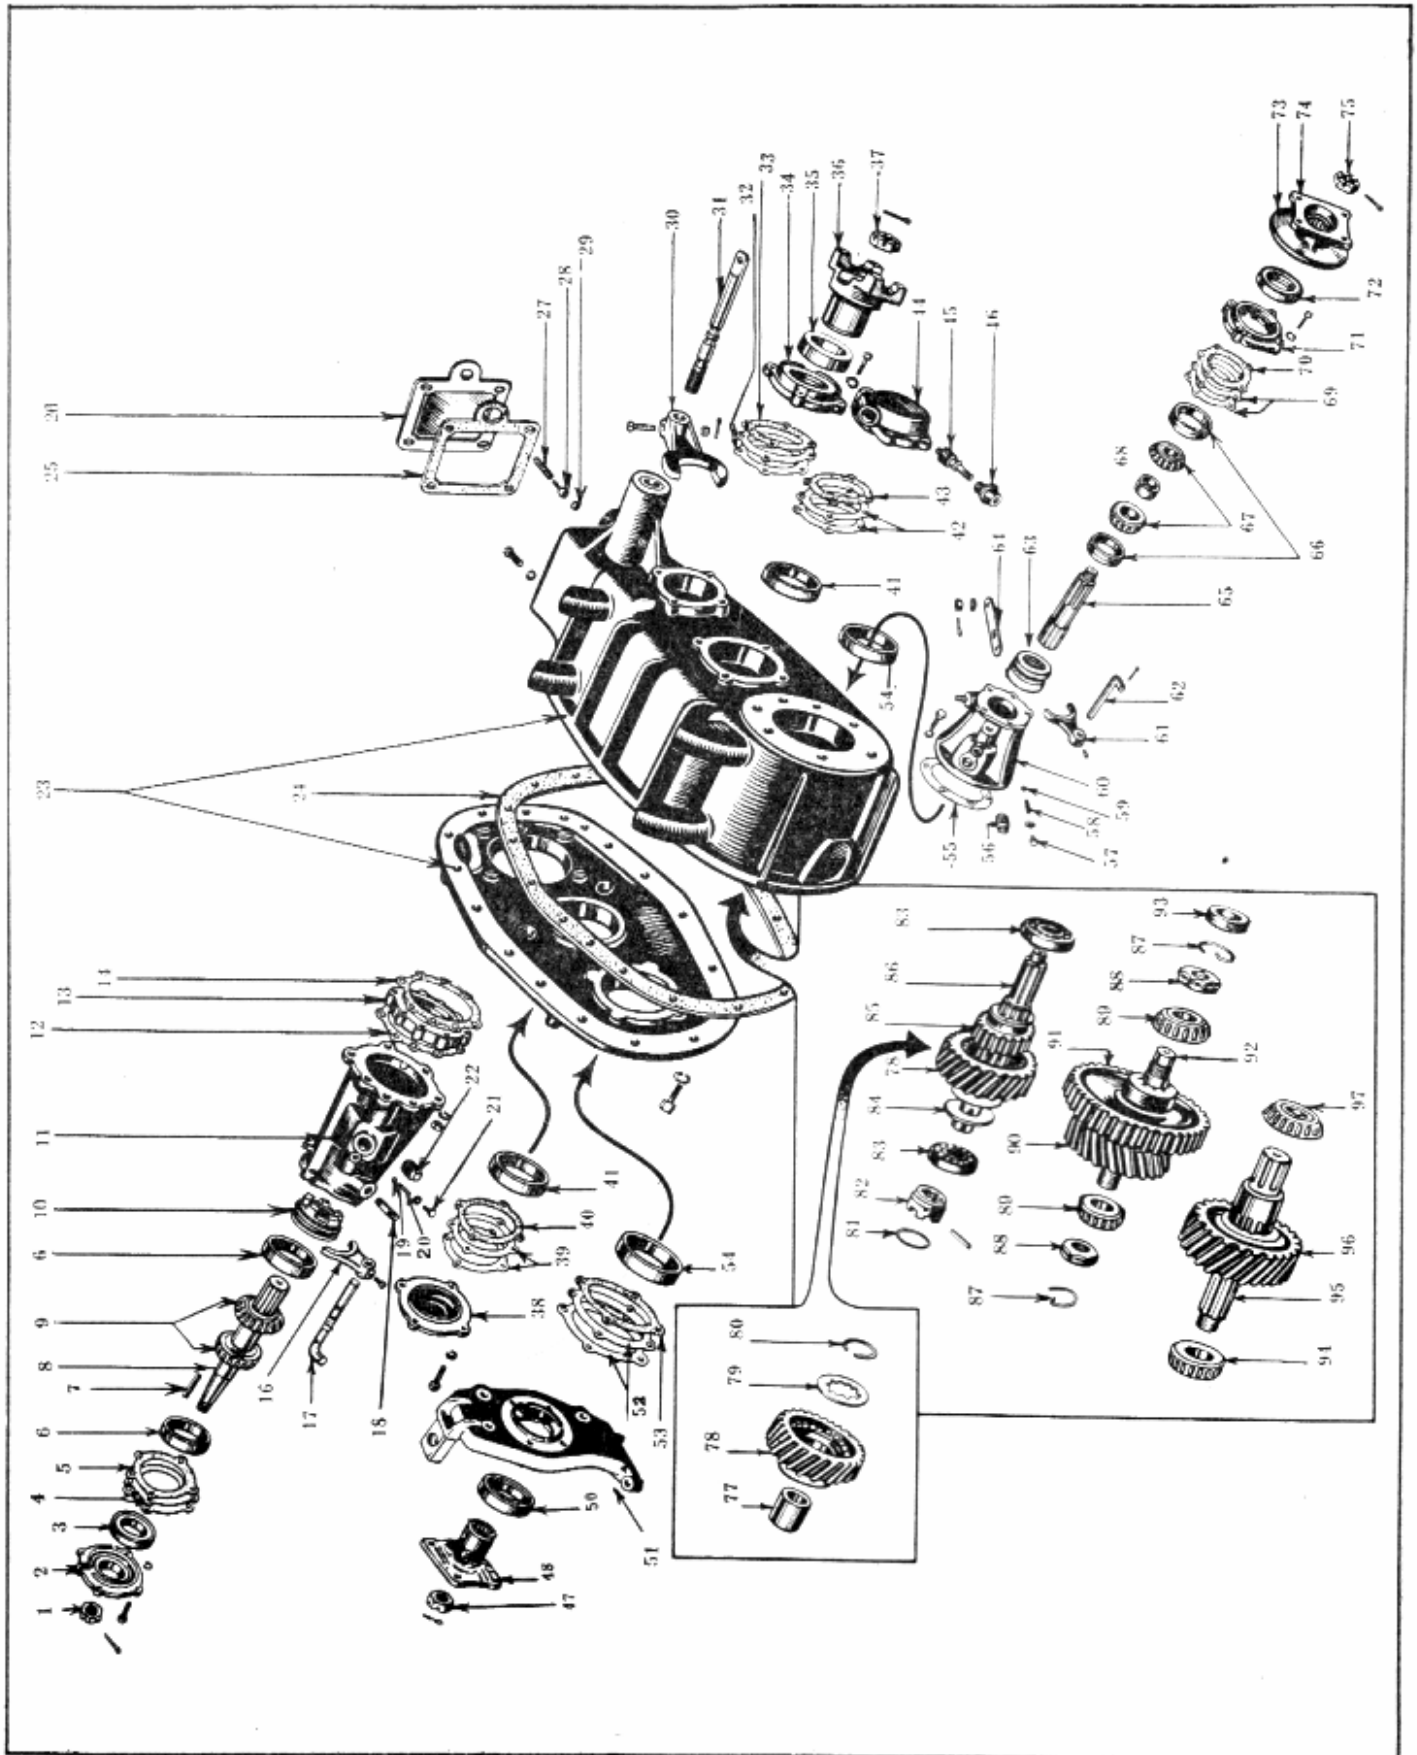

Fig. 12—Exploded View of Two Speed Transfer Case
**Shafts and Bearings (Refer to Fig. 12)**
(Refer to Fig. 12)
## CAPTION FOR FIG. 12